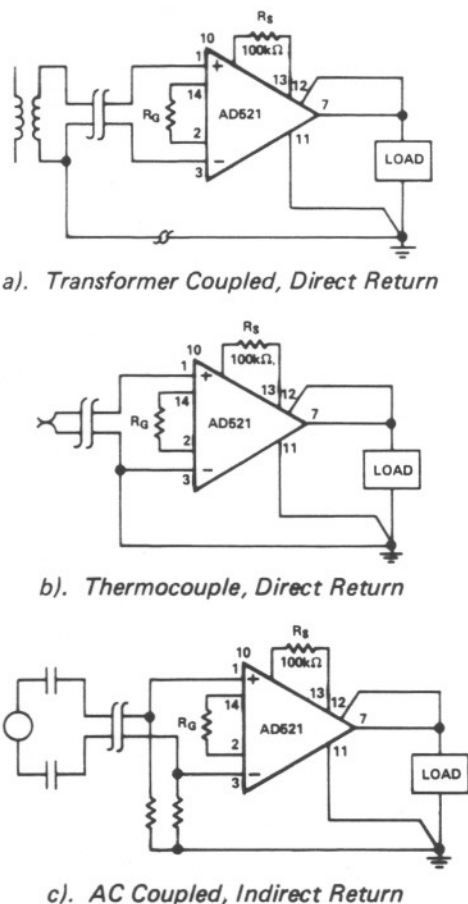

Figure 3. Ground Returns for "Floating" Transducers
2. Provide a return path to ground for input bias currents. The AD521 is an instrumentation amplifier, not an isolation amplifier. When using a thermocouple or other "floating" source, this return path may be provided directly to ground or indirectly through a resistor to ground from pins 1 and/or 3, as shown in Figure 3. If the return path is not provided, bias currents will cause the output to saturate. The value of the resistor may be determined by dividing the maximum allowable common mode voltage for the application by the bias current of the instrumentation amplifier.